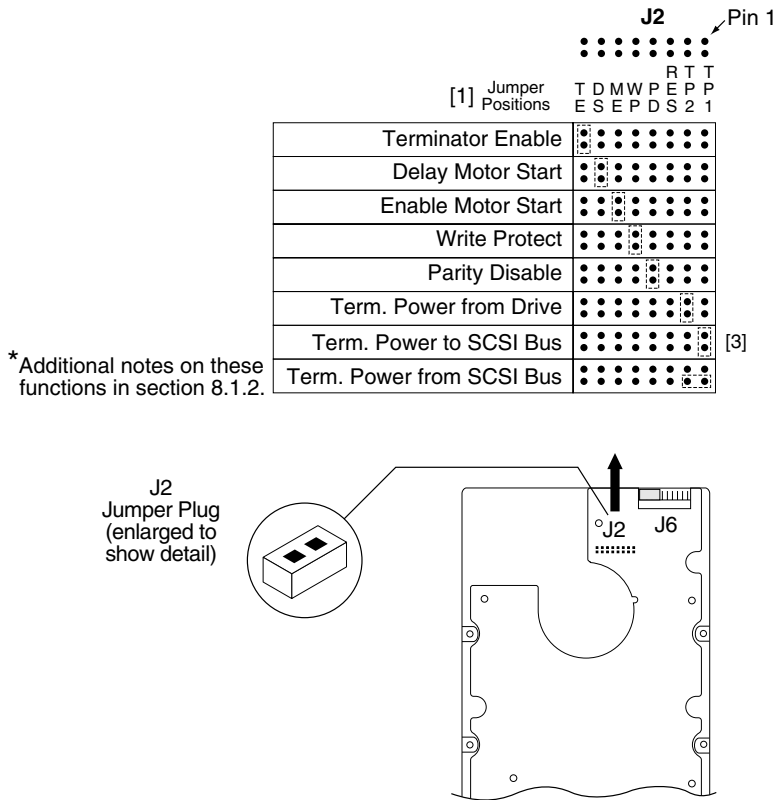

Figure 14. J2 option select header (for N models)
8.1.1 Notes for Figures 14 through 18
[2] See Figure 14 for pins used for Termpower.